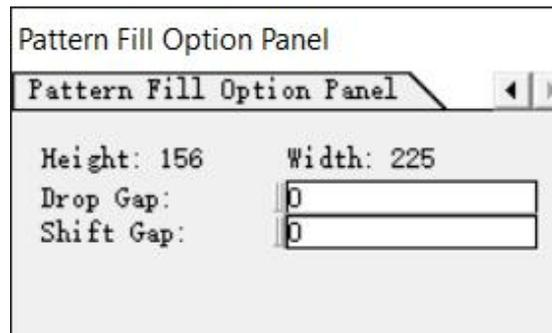

Figure 4-116
3. Select Pattern Fill, the Pattern Fill Option Panel displays the Height and Width of the fill pattern, and you can set numerical values for the "Drop Gap" and "Shift Gap" of the pattern fill. (Figure 4-116)